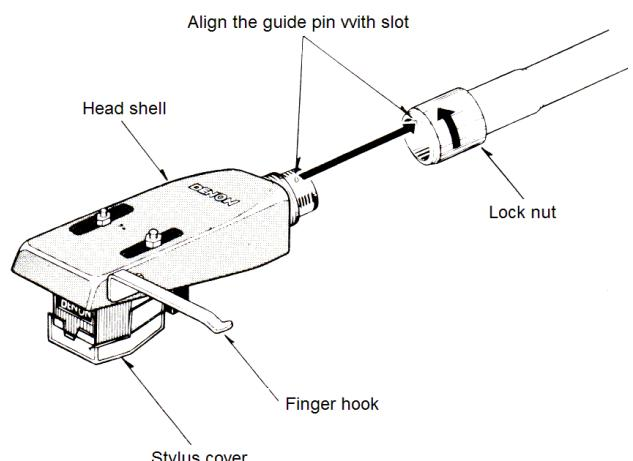
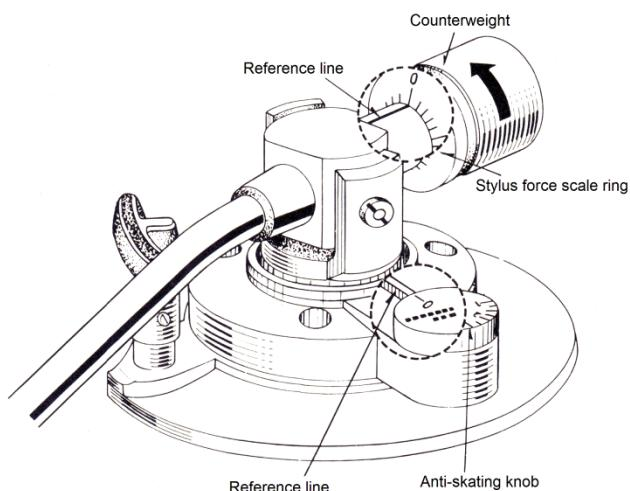

Fig. 6 Attaching head shell
Fig. 9 "0" Setting
- (1) As shown in Fig. 6, align the guide pin with the slot at the tonearm end and insert.
- (2) Turn the lock nut in the arrow direction in Fig. 6 until it stops and fix the head shell to the tonearm.
- (3) For removing the head shell, turn the lock nut in the opposite direction of the arrow and gently pull it off.
- (1) Turn the power switch ON (■).
- (2) Press either "33" or "45" speed selection button. Make sure the arm lifter is down and then turn OFF the power switch.
- (3) Turn the anti-skating knob and set "0" to the reference line as in Fig. 9.
- (4) Remove the stylus cover of the cartridge
- (5) See Fig. 10 and unlock the arm clamer. Hold the finger hook of the head shell (Fig. 6) with your fingers and remove the tonearm from the arm rest.
Turn the counterweight in the arrow direction in Fig. 9
Turn the counterweight in the opposite direction of the arrow in Fig. 9